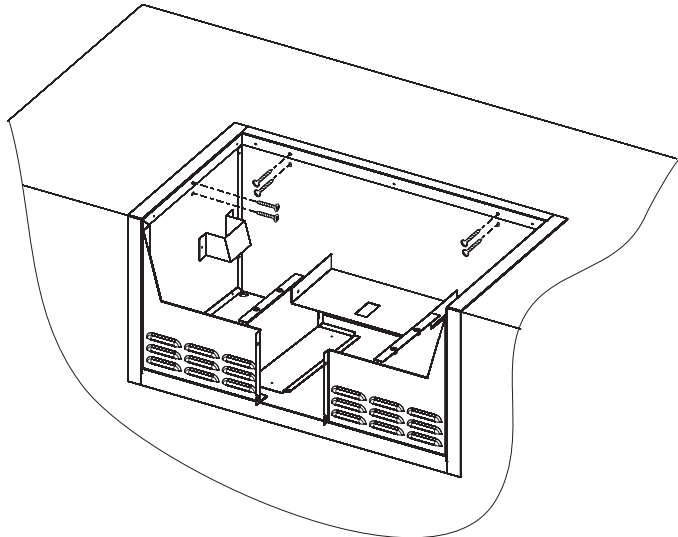

Figure 2
2. Secure the BHA surround to the enclosure using eight (8) 8 x 3/4" Hex Head Screw screws. See Figure 2.